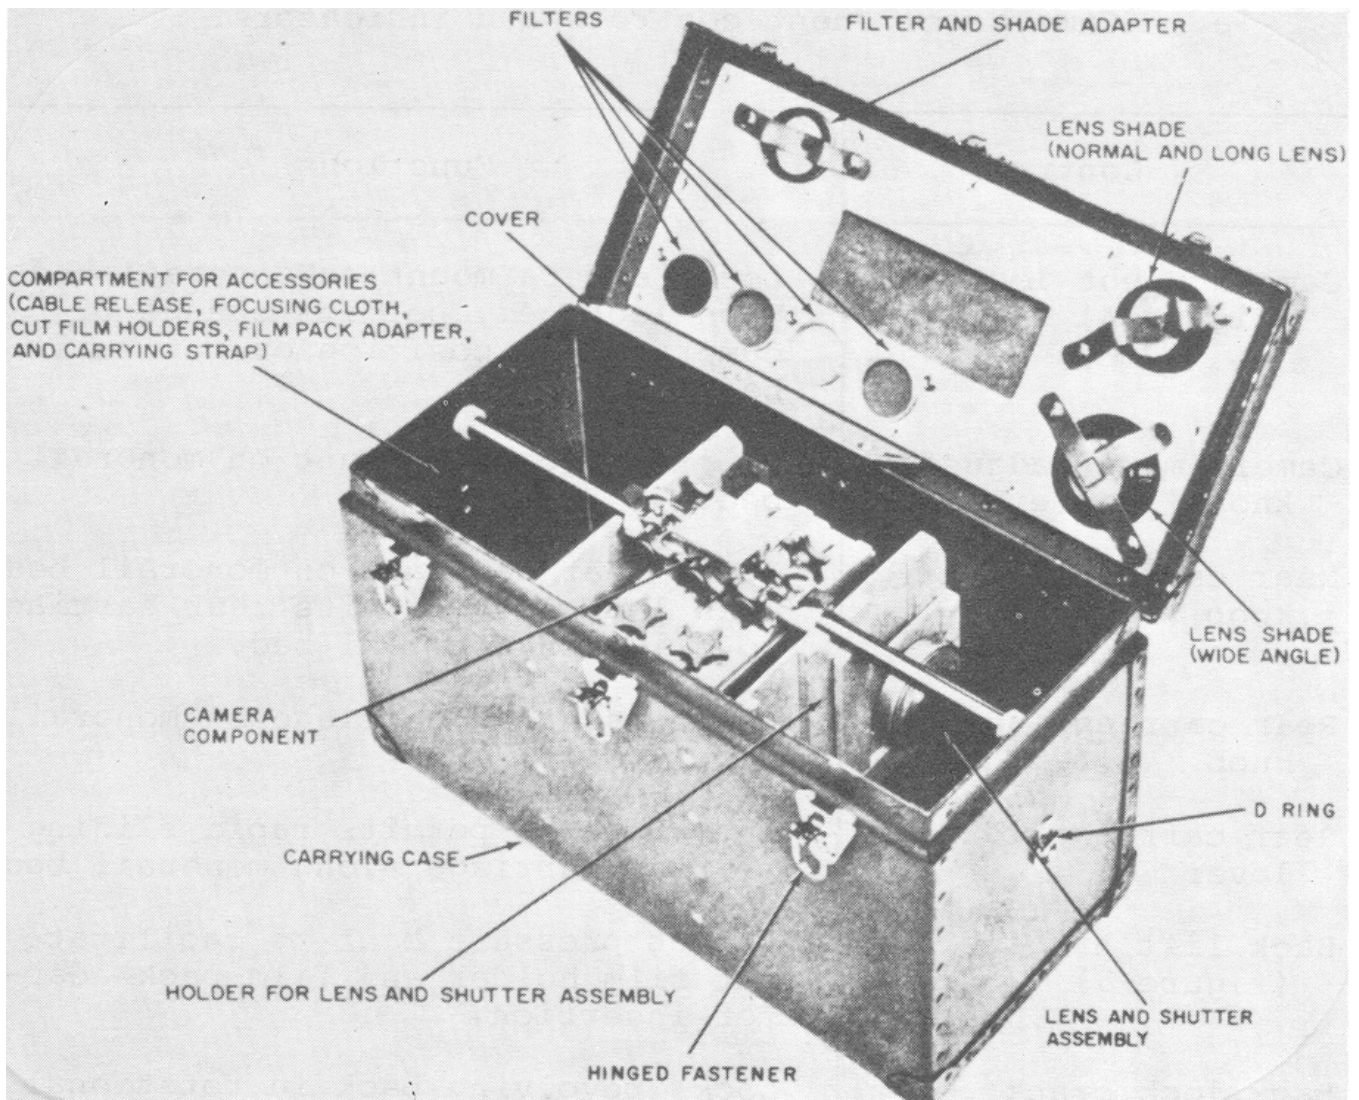
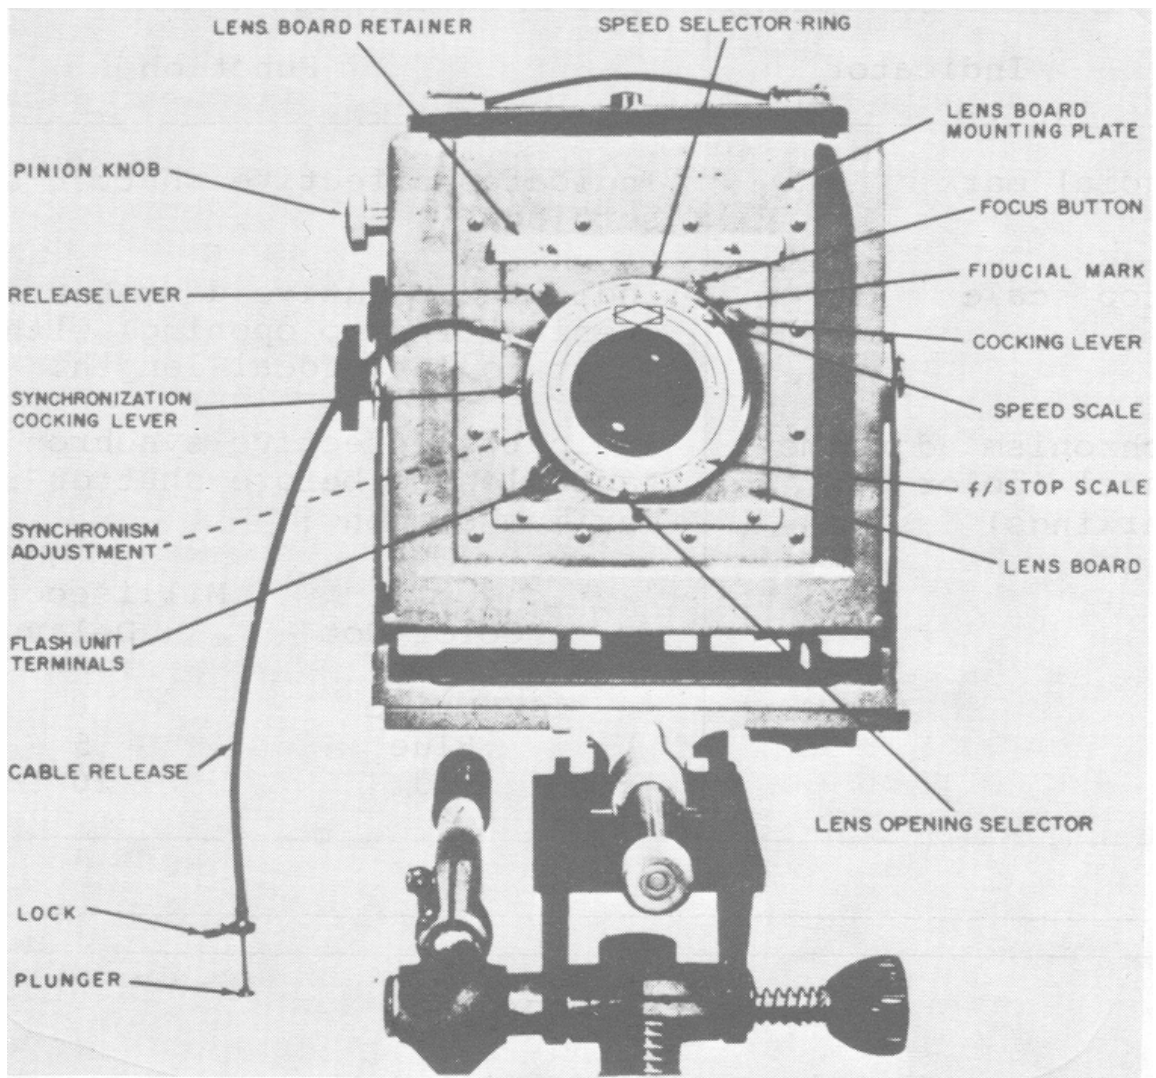

FIGURE 3. Carrying case, interior view.
FIGURE 7. Controls on lens and shutter assembly.
b. The camera component and the minor components are stored in the carrying case (figure 3). The tripod (with the attached panhead) (figure 7) is stored in the tripod case.
c. Lens and shutter assemblies and lens caps. The lens and shutter assemblies furnished with the camera set are mounted on individual lens boards (figure 7). Each shutter is fitted to accept a cable release and has a built-in adjustable time delay synchronization mechanism for synchronized flash photography. The glass-to-air surface of each lens is coated to reduce internal reflections. A pair of velvet-lined lens caps (front and rear) is furnished for each of the three lenses to protect the exposed optical surfaces when the lens is not in use. The lens caps are interchangeable since the optical parts of each lens and shutter assembly are mounted in barrels having the same outside diameter (51 millimeter).
d. Cable release, filters, and lens shades. The cable release (figure 7) supplied with the camera set is flexible and equipped with a plunger and lock on one end. The other end has a threaded tip which fits the cable release socket on each of these lens and shutter assemblies. The filter and shade adapter (figure 1) has a removable retaining ring and an adapter which fits over each of the three lenses. Either the normal and long lens shade or the wide angle lens shade can be screwed into the adapter. The filter and shade adapter will accommodate any of the gelatine (optical glass mounted) filters supplied as part of the camera set.
f. Carrying case, carrying strap, focusing cloth, and tripod case. The carrying case (figure 3) has compartments to accept all the camera set components except the tripod (and attached panhead), which is stored in its own tripod case. The camera component is supported in the center compartment of the carrying case. The minor components are stored in the end compartments with the exception of the filters, filter and shade adapter, and lens shades. These items are stored in the specially fitted cover of the carrying case. A handle (not shown) on top of the carrying case and a carrying strap that is attachable to the D-rings on the ends of the carrying case, permit carrying the enclosed equipment off the shoulder or in the hand. Three hinged fasteners on the carrying case secure the cover. The tripod case is equipped with snap fasteners to secure the opening end. A handle on the side of the tripod case facilitates transporting the tripod.
Pinion knob (figure 7)	Raises and lowers lens board mounting plate.
(1) Slide the lens board retainer (figure 7) to the left and upward as far as possible.
(2) Place the lens board in position on the lens board mounting plate with the lower edge behind the fixed lower lens board retainer.
(3) Set the lens board completely in the recess of the front of the lens board mounting plate.
(4) Slide the lens board retainer down and to the right as far as possible to secure the lens board in place.
b. Depress the cocking lever (figure 7) until it latches in the cocked position.